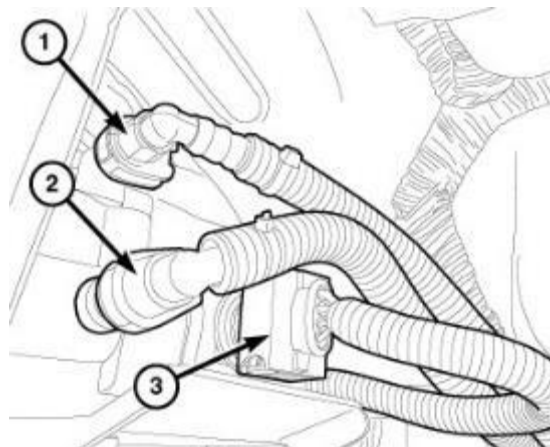

Figure 67 - Inlet and Outlet Lines
92. Disconnect the fuel filter/water separator outlet fuel line (1) (Figure 67).
93. Disconnect the fuel filter/water separator inlet fuel line (2) (Figure 67).
94. Disconnect the combination fuel heater/temperature sensor wire harness connector (3) (Figure 67).
109. Connect the combination fuel heater/temperature sensor wire harness connector (3) (Figure 67).
110. Connect the fuel filter/water separator inlet fuel line (2) (Figure 67).
111. Connect the fuel filter/water separator outlet fuel line (1) (Figure 67).